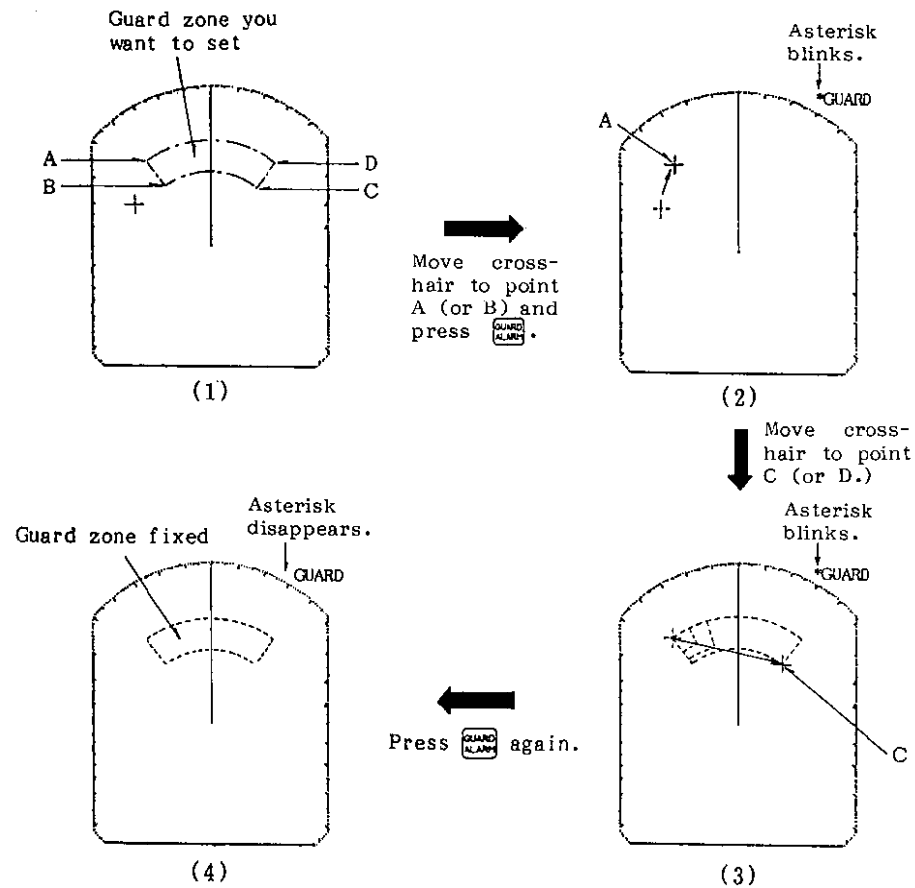

Fig.30 Setting Guard Zone
1. Mentally create the guard zone you want to display on-screen. See Fig.30 (1).
2. Designate the upper (lower) left edge of the guard zone with the cross-hair. Press the  touchpad, and the indicator "\*GUARD" (asterisk blinking) appears at the upper right-hand side of the screen. The asterisk indicates the guard zone is partially set; but the alarm function has been actuated. See Fig.30 (2).
3. Rolling the trackball clockwise, designate the lower (upper) right edge of the guard zone. The guard zone (fan-shaped) now appears on the display screen. See Fig.30 (3).
4. Press the  touchpad again. The asterisk disappears, indicating the guard zone is completely actuated. See Fig.30 (4).